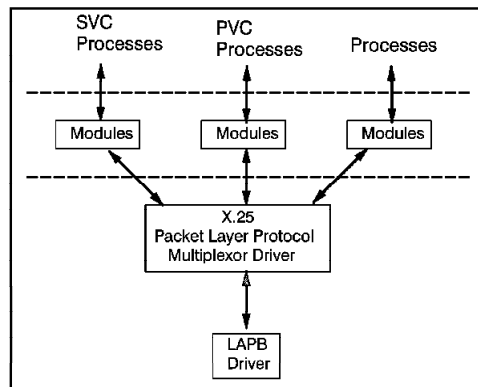

Figure 37. Multiplexing Facility of the STREAMS
The stream end is a module in which the module processing procedures are the driver routines. The procedures in the stream end are different from those in other modules because they are accessible from an external device and the STREAMS mechanism allows multiple streams to be connected to the same driver (see Figure 37 on page 122).
- Multiplexing: Allows for processing interleaved data streams such as those that occur in X.25 (SVCs and PVCs). See Figure 37.